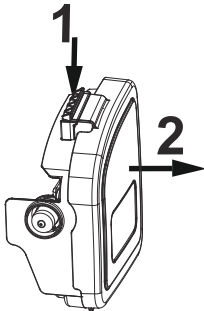

Fig. 14
1. Unlock the latch (1) and pull upward to open the air filter compartment (2). (Fig. 14)